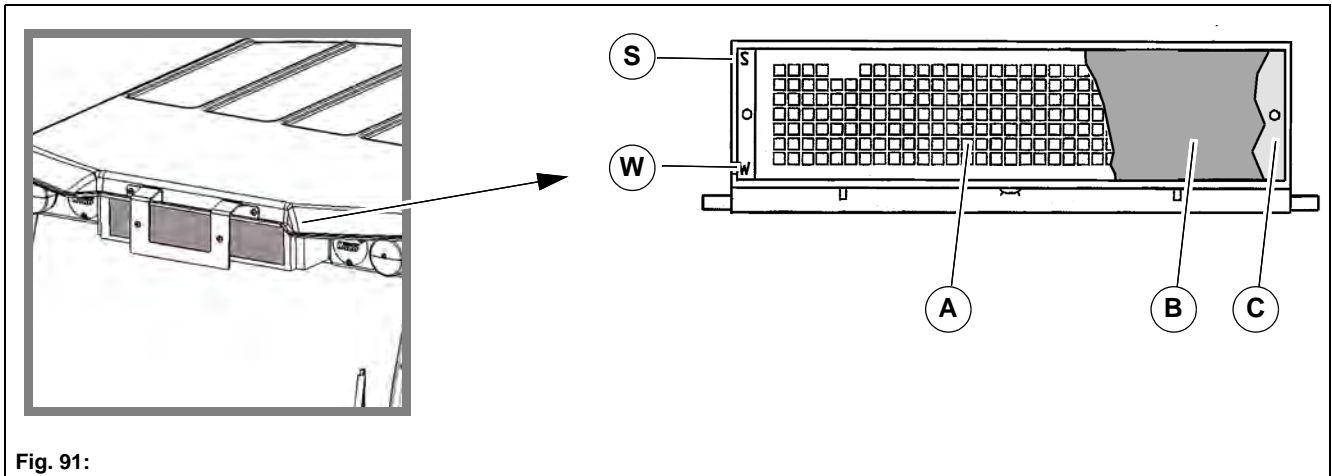

Fig. 91:
2. Loosen the four mounting screws of the protective grille **Fig. 91-A** and remove the protective grille.
3. Remove and clean the cab air filter **Fig. 91-B** and renew it if necessary.
Insert the perforated plate **Fig. 91-C** located behind the cab air filter so that the mark points to the "S".